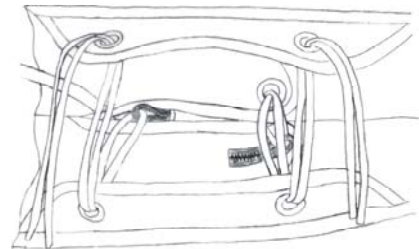

Fig.5
- Gradually (A, C, E, F and B, D, E, F respectively) thread the packing lace through the metal eyes (see Fig. 5), so that you pull the closing eye from the final metal ring and secure it with a metal pin (see Fig. 6).